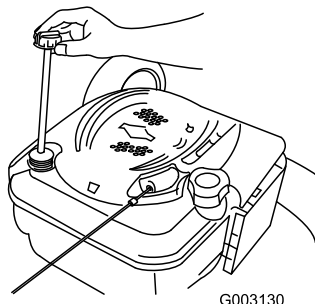

Figure 30
2. Retirez la jauge (Figure 30).